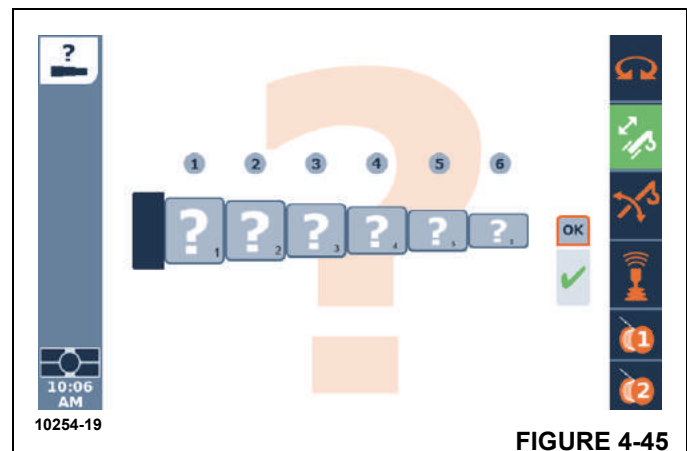

FIGURE 4-45
the OK shown on the screen. If this is the correct code, then the reset telescoping screen appears as shown in Figure 4-45.
- In the reset telescoping screen, as shown in Figure 4-45, the operator can indicate the current boom configuration (“actual tele picture”). It is seen that there are 6 available boxes (for the 6 telescoping boom sections). Each of these spin boxes can be used to change to one of the following:
- When each of the spin boxes is set to the correct value or indication, then an Enter button can be used on the OK in the screen. If the control system confirms this boom configuration, then a check-mark appears below the OK. Otherwise, the question mark shown under the OK (as in Figure 4-45) will remain; in this case, the operator should exit the screen and repeat an attempt to enter the actual boom configuration.